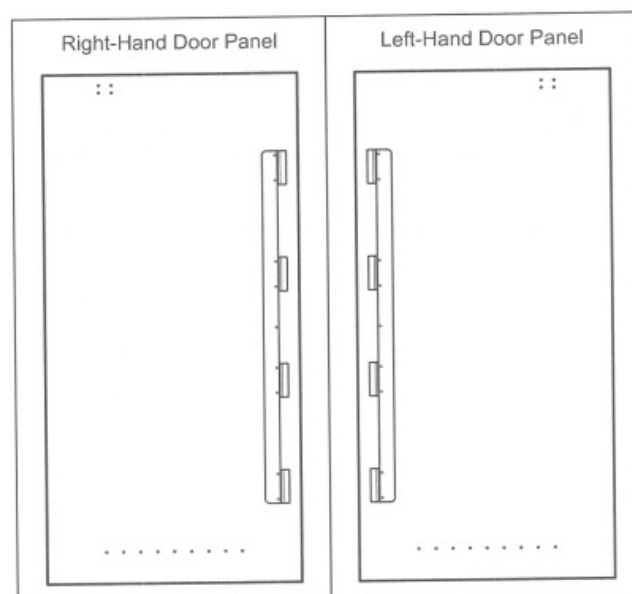

Figure 2-9. Holes Drilled with Handle Side Bracket
4. Remove handle-side door panel mounting bracket from face of door and attach it to door panel with #8 x 1/2" screws, provided with unit. (See Figure 2-9)